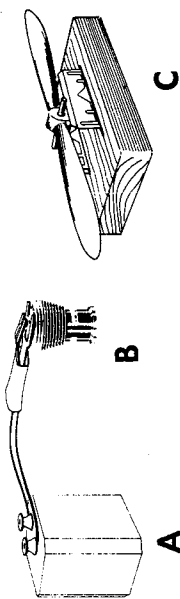

FIG. 1
4. Procure a 1 1/2 volt Cox dry cell battery, or equivalent, and connect it with 2 flexible insulated wires to the glow plug clip as shown in the diagram A and B — Fig. 1. Do not use a stronger battery. If you do, the plug will burn out. The connections should be soldered to insure good contact, and taped to prevent bare ends of wire from getting together and "shorting" the battery. Be sure the battery is a good one. Your dealer sells batteries and glow plug clips. The Cox plastic mounted glow plug clip (Cat. No. 755-6) with wires already attached is recommended and requires no soldering.
of plastic along the edges of the blades. Fit a drill or shaft through the hole and rest the shaft on razor blades set in wooden blocks as shown in C-Fig. 1. Sand the heavy blade until the propeller will balance in a horizontal position. Care must be taken to do the sanding without spoiling the airfoil characteristics of the propeller blades. Caution: Use only nylon or wooden props. Styrene props are extremely dangerous on these engines.
5. Connect the battery by snapping the clip on the glow head, B-Fig. 1.